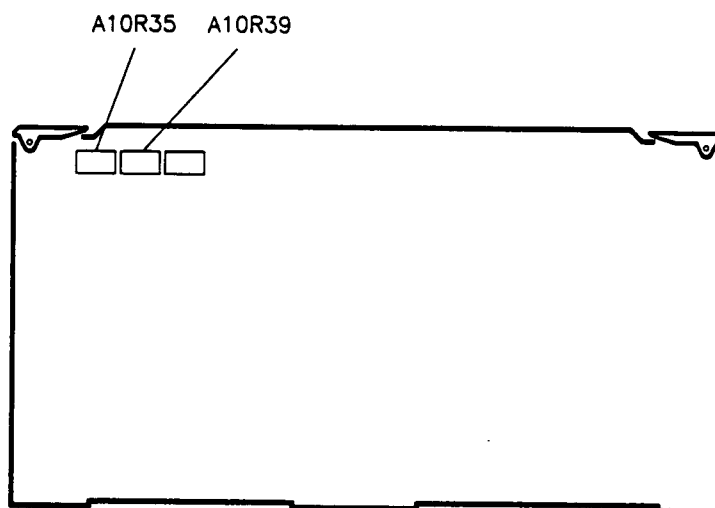

Figure 3-32. A10R35 and A10R39 Locations
15. Adjust A10R35, EXP AM CAL, for a -10 dB power meter reading. See figure 3-32 for the location of A10R35.
21. Adjust A10R39, LIN AM CAL, for a 0.126 mW (4.00% relative) reading. See figure 3-32 for the location of A10R39.